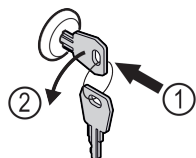

Fig. 123
- ▶ Insert the key. *Fig. 123 (1)*
- ▶ Turn the key anticlockwise by 90°. *Fig. 123 (2)*